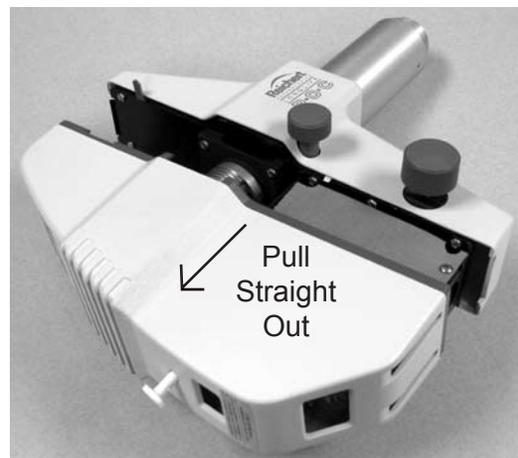

Figure MM-6 Remove Rear Cover
3. Pull the Rear Cover straight out. The Rear Cover Fastener will be attached to the Rear Cover and will come out with the Rear Cover. Refer to Figure MM-6.